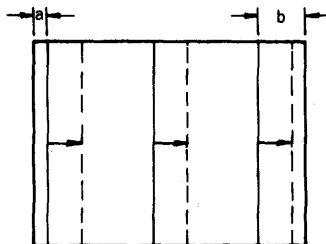

Figure 6
- 10) Adjust RV6 (H CENT (green)) so that the lengths of a and b are equal as shown in Figure 6.